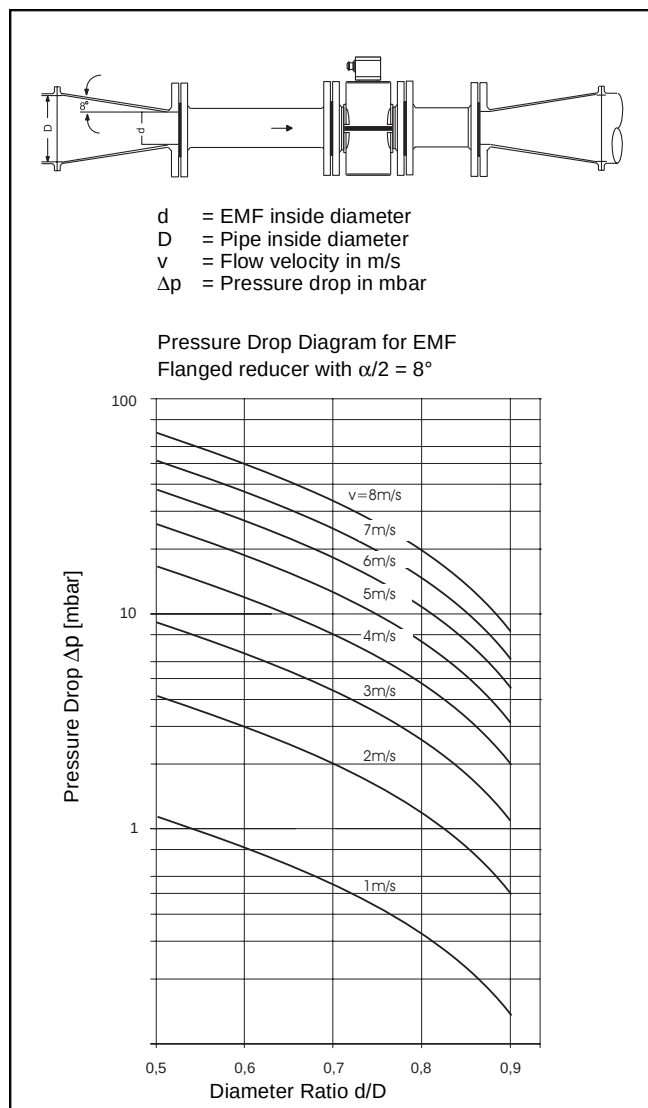

Fig.6 Nomograph for Pressure Drop Determinations
The flowmeter primary can readily be installed in larger pipeline sizes by utilizing reducers (e.g. flanged reducers DIN 28545). The pressure drop which results from the reduction can be determined from the Nomograph Fig. 6. The pressure drop is determined in the following manner:
3. Read the pressure drop on the Y-Axis in Fig. 6 at the intersection of the "Diameter Ratio d/D " x-axis value and the flow velocity line.